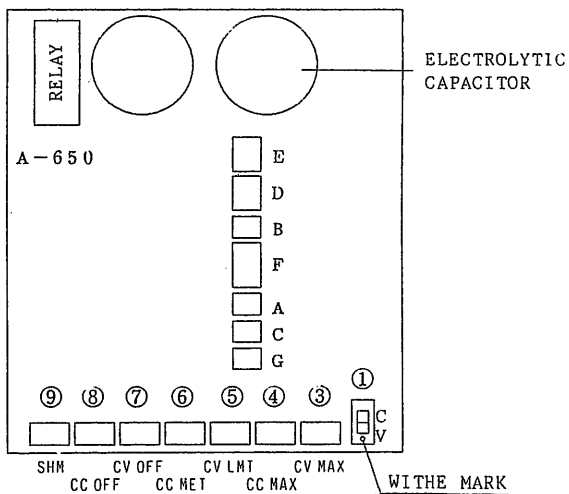

Figure 4-5. Layout of components of PC board A-650
- (2) Turn on the OUTPUT switch. Adjust the CV OFF potentiometer (⑦ in Figure 4-5) so that the digital meter indicates the same value.
- (3) For the models whose rated output voltages are 110 V or lower, turn on the OUTPUT switch and set the output voltage at 17.50 V. For the models whose rated output voltages are 250 V or higher, set the output voltage at 175.0 V.
- (4) Turn off the output switch. Adjust the CV LMT potentiometer (⑤ in Figure 4-5) so that the digital meter indicates the same value.
- (1) Press the A (ammeter) switch and turn off the OUTPUT switch.
- (2) Adjust the CC OFF potentiometer (⑧ in Figure 4-5) so that the digital meter reads 0 A (zero amperes).
- (3) Connect an ammeter (or a shunt resistor) of an accuracy of 0.2% or better to the output terminal and feed the current (I1) shown in Table 4-3.
- (4) After feeding the current for approximately 20 minutes, adjust the CC MET potentiometer so that the meter indicates the value of output current I1.
- (1) Press the V (voltmeter) switch and turn on the OUTPUT switch.
- (2) Turn both COARSE and *FINE VOLTAGE setting potentiometers to the clockwise extrem position. Adjust the CV MAX potentiometer (③ in Figure 4-5) so that the output voltage becomes E_0 (maximum voltage) shown in Table 4-3. (*: The PAB110-0.6A, PAB250-0.25A and PAB350-0.1A have no FINE VOLTAGE setting potentiometer.)
- (1) Connect an ammeter of an accuracy level of approximately 0.5% to the output terminal.
- (2) Turn the COARSE CURRENT setting potentiometer (including the FINE CURRENT setting potentiometer if the FINE VOLTAGE potentiometer has been modified to it) to the clockwise extreme position. Adjust the CC MAX potentiometer ((4) in Figure 4-5) so that the output current becomes I_0 (maximum current) shown in Table 4-3. (The PAB110-0.6A, PAB250-0.25A and PAB350-0.1A have no FINE setting potentiometer.)
- (2) Increasing gradually the output voltage, adjust the SHM potentiometer ((9) in Figure 4-5) so that the relay trips at the voltage of E_1 shown in Table 4-3.